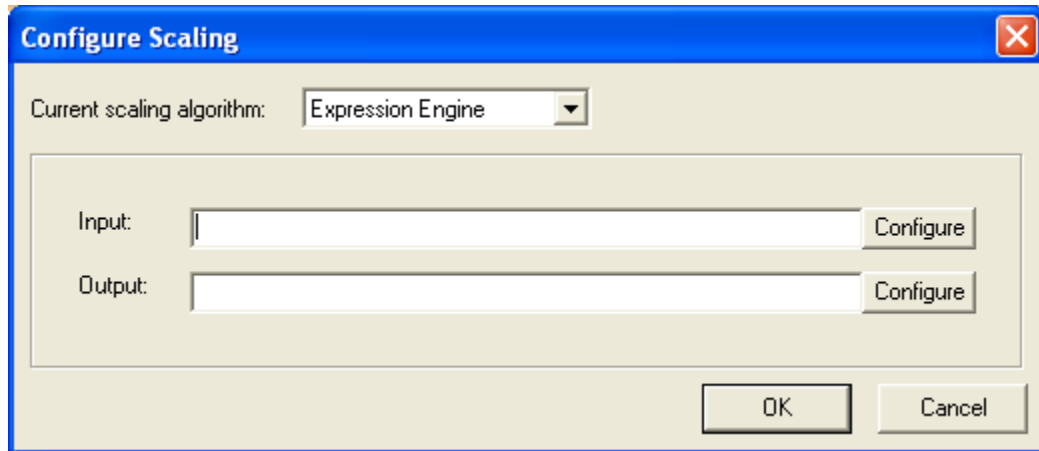

Figure 27 - Expression Engine Configuration
- Select the **Expression Engine** option (Figure 27).